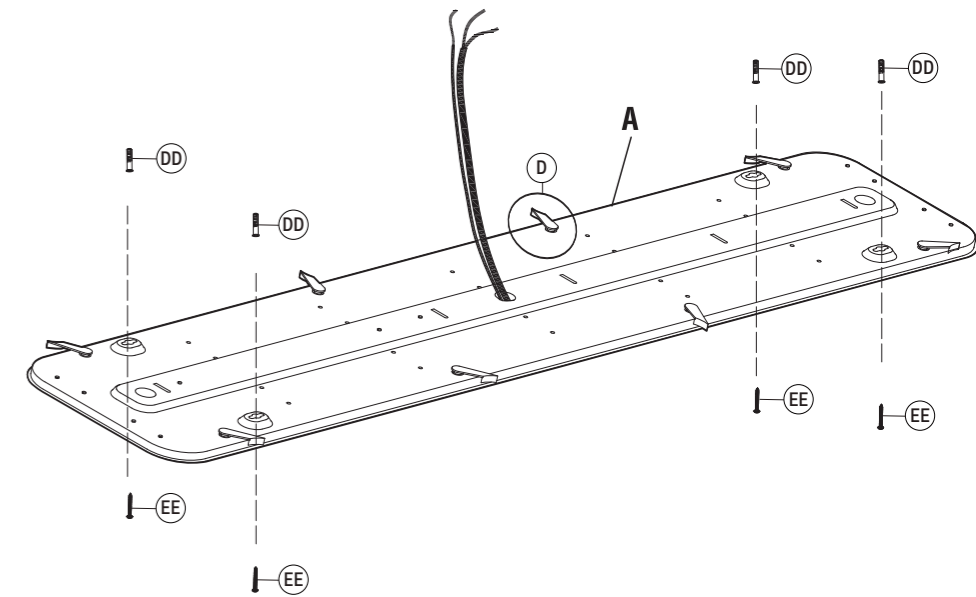

Figure 3
Drill a 1/4 in. pilot hole into the marked screw locations. Insert wall anchors (Parts DD). Start the screws (EE) but do not tighten fully. Slide the lamp base (A) over until the narrow legs of the keyhole slots are under the heads of the screws (EE). Finish tightening the screws (EE) until they are firmly seated and the lamp base (A) is tightly secured to the mounting surface. (Figure 3)